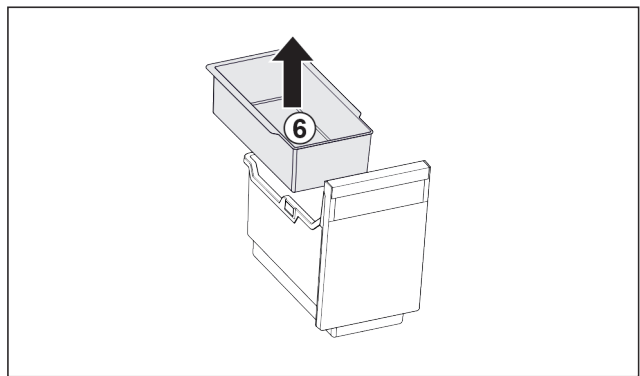

Fig. 195
- ▶ Remove the hang-on tray Fig. 195 (6).